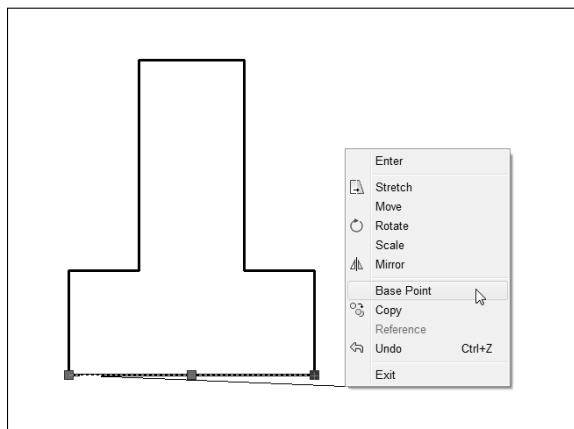

Figure 10-8:
1. Draw some simple geometry, such as the object shown in Figure 10-8.
Pressing the spacebar a bunch of times is a good way to become familiar with the grip-editing modes, but there's a more direct way to choose a particular mode. After you click a grip to make it hot, right-click to display the grip-editing menu. That menu contains all the grip-editing options plus some other choices, as shown in Figure 10-8.